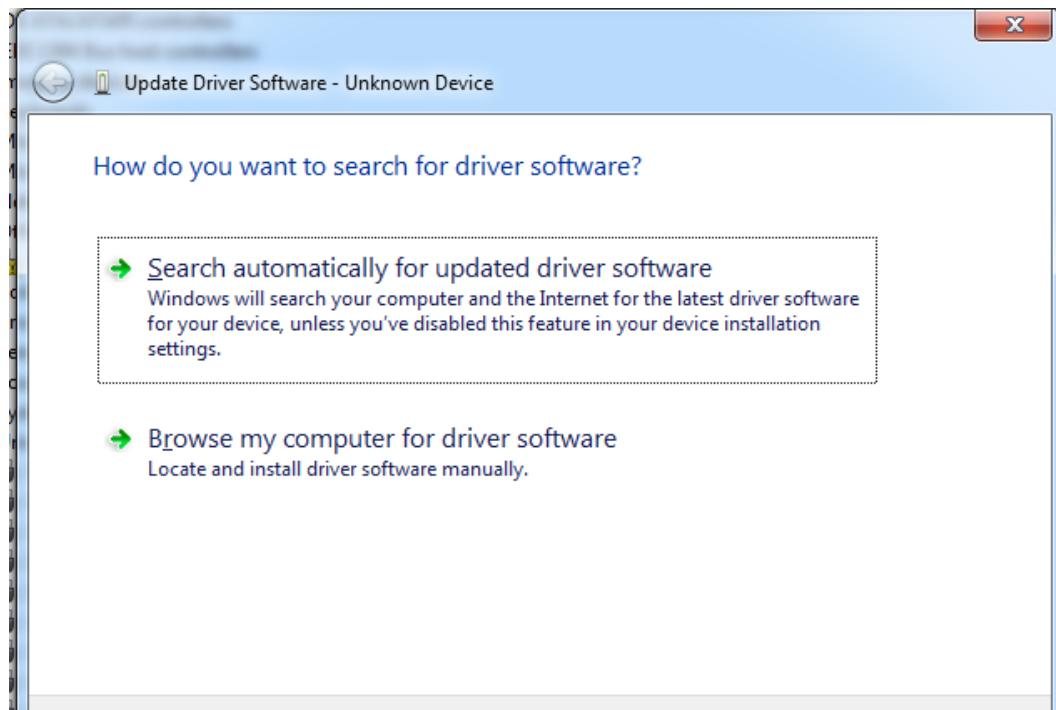

Figure 3.3: Windows update driver option
8. Right-click on the “Unknown device” (or “USB Serial Device (COM2)” as shown in the previous step) and select the “Update Driver Software” (or “Update driver”) option as shown in Fig. 3.3.